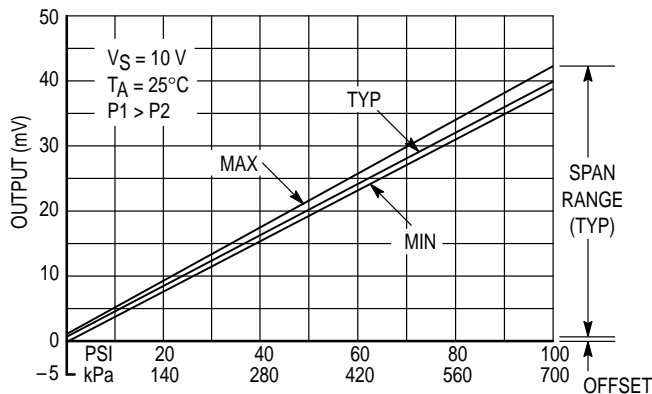

Figure 3. Output versus Pressure Differential
Linearity refers to how well a transducer's output follows the equation: $V_{out} = V_{off} + \text{sensitivity} \times P$ over the operating pressure range. There are two basic methods for calculating nonlinearity: (1) end point straight line fit or (2) a least squares best line fit (see Figure 3). While a least squares fit gives the "best case" linearity error (lower numerical value), the calculations required are burdensome.
Figure 3 shows the output characteristics of the MPX2700A series at 25°C. The output is directly proportional to the differential pressure and is essentially a straight line.